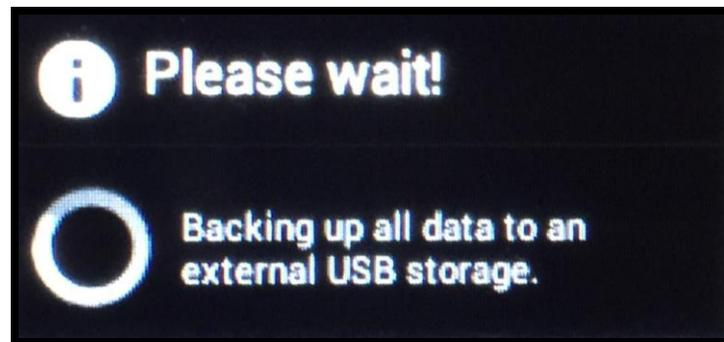

Figure 25
- g) **MAJSx Storage Backup to USB**. This button is used to transfer and save the analysis stored on the “on-board” computer to an external USB “stick”. When pressed a window stating “Please wait! Back up all data to an external USB storage.” (See Figure 25) Once the data is finished backing up onto the USB “stick”, the window will automatically close.